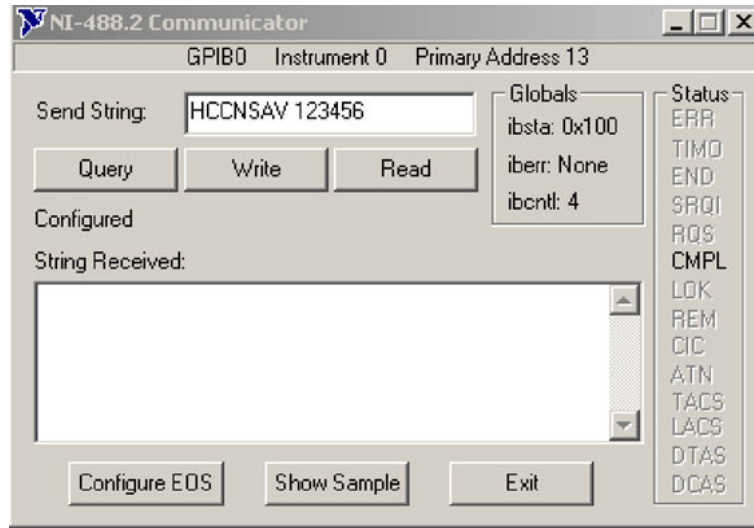

Figure 4-4. Send-Receive Dialogue
- In the Send String box (Figure 4-4), type the commands listed below and use the Write or Query button to send and receive data to and from the power meter.